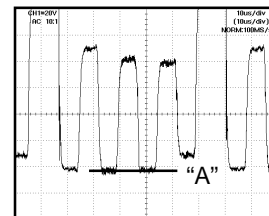

Fig. 2-1
5. Press the VOL. UP/DOWN button on the remote control until the section "A" becomes a straight line **(Refer to Fig. 2-1)**.